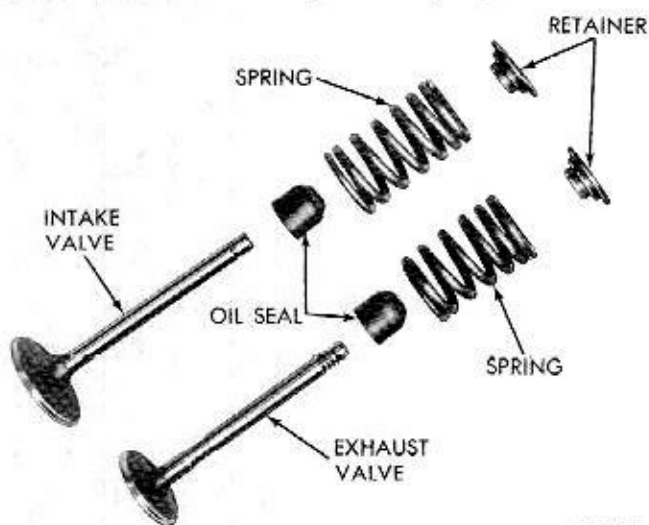

Fig. 15—Valve Assembly (Disassembled View)
(1) Coat valve stems with lubricating oil and insert them in position in cylinder head.
(2) Install new cup seals on the intake and exhaust valve stems and over valve guides (Fig. 15 and 16) and install valve springs and retainers.